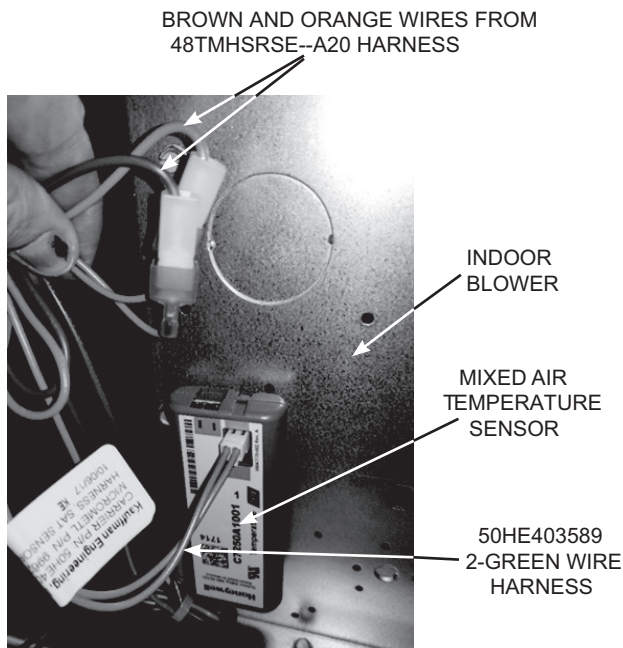

Fig. 15 — Mount and Connect Mixed Air Sensor
19. Screw the HH79AH001 mixed air (MAT) sensor (Honeywell C7250) to the left side edge of indoor blower through pre-punched holes; see Fig. 15. Confirm that the screws do not interfere with blower rotation. Locate the 50HE403859 2-green wire harness shipped with the EconoMi\$er X kit. It will have a plug on one end and terminals on the other end. Connect the plug from this harness to the MAT sensor. See Fig. 15. Connect the 2 spade terminals on the 50HE403859 harness to the orange and brown wires from the 4-wire 48TMHSRSE--A20 Harness. See Fig.15 and page 9.
8. Step LC8. Mount the provided HH79AH001 mixed air temperature (MAT) sensor (C7250) to the indoor blower. Confirm that the screws do not interfere with blower rotation. See Fig. 15. Locate the 50HE403859 2-green wire harness shipped with the EconoMi\$er X kit. It will have a plug on one end and terminals on the other end. Connect the plug from this harness to the MAT sensor. See Fig. 15. Connect the (2) spade terminals on the 50HE403859 harness to orange and brown wires in the indoor blower section wire bundle.